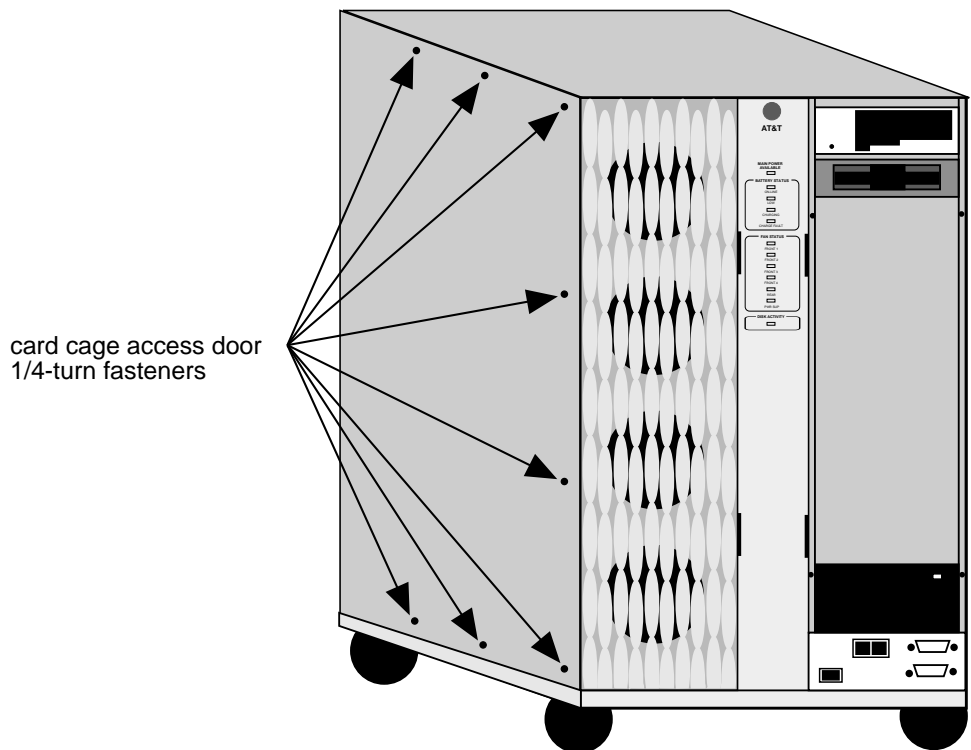

Figure 2-17. Fasteners Around the Card Cage Access Door
5. Loosen the eight 1/4-turn fasteners around the card cage access door (Figure 2-17) and open the door.
3. Tighten the eight 1/4-turn fasteners around the card cage access door (Figure 2-17).